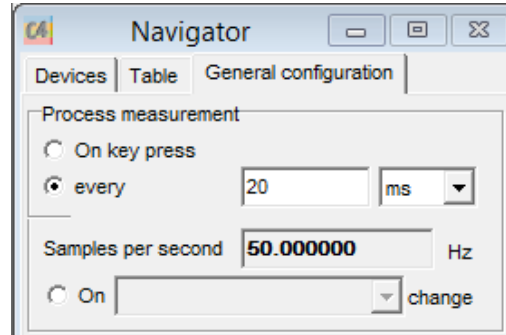
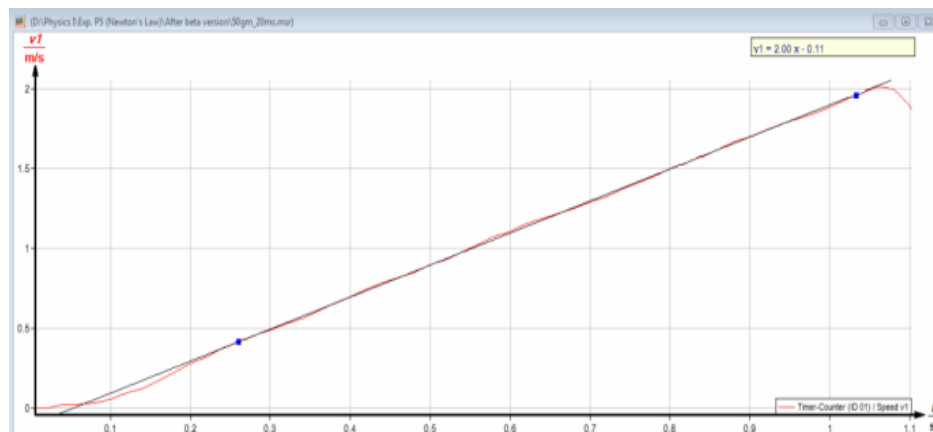

Figure 3.36: Adjusting the sampling time.
Figure 3.37: Velocity-Time curve with linear regression curve.
- 3- For light added masses, you may set the “Sampling time” to 20 ms as shown in Figure 3.36 and for heavy added masses you may set this time to 50 ms.
- 4- Repeat steps 7 to 10 from Task (2).
- 6- Use the “Regression Tool” () to make a straight line, which conforms to the relationship $v = at$. A regression line will fit the measured points but to consider only the linear part of the curve, place one of the blue points of the regression line at the beginning of the linear part of the curve and the other blue point at the end of the linear part of the curve as shown in Figure 3.37.
- 1- Use the same setup and configuration file as for Task (2) and (3).
- 5- Repeat steps 5 to 7 from Task (3).
- 7- For heavy weight holder, you may set the "Sampling time" to 20 ms as shown in Figure 3.36 above and for light weights you may set this time to 50 ms.